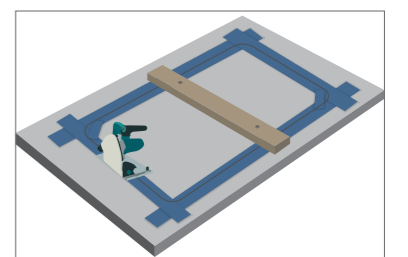

Fig. 6
- Using a track saw cut the two long sides. (see Fig. 6)